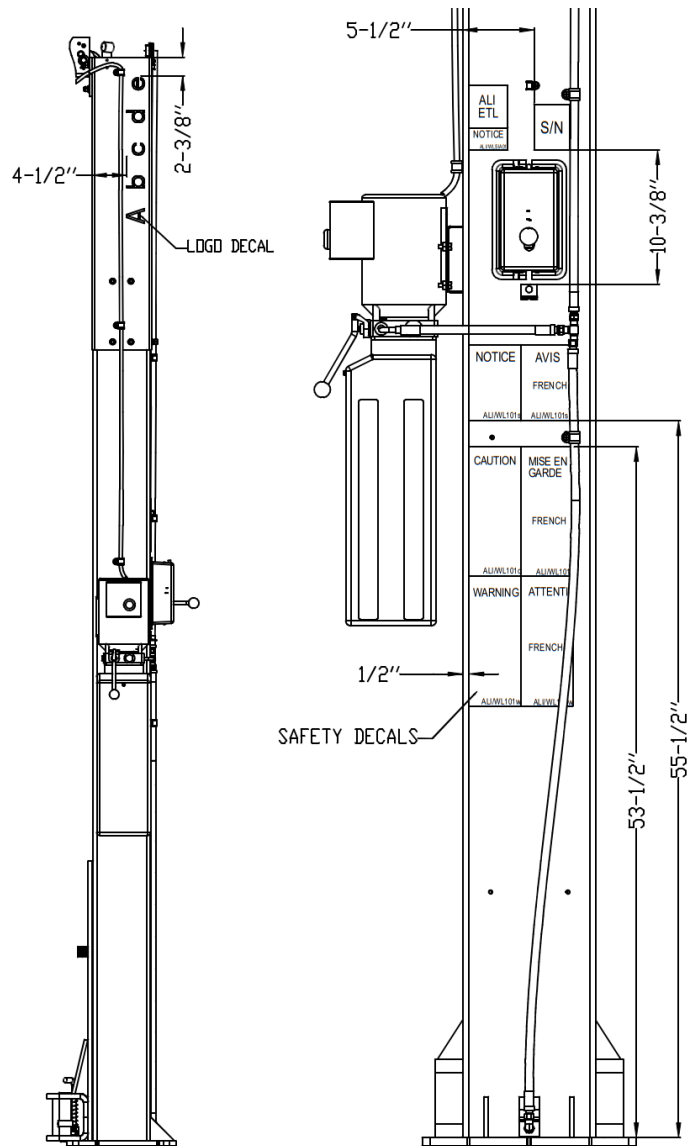

Fig. 13 – Safety & Logo Decal Placement
46) Apply the Logo Decals to each column extension and the Safety Decals (Pg. 3) to the power column as show in **Fig. 13**.